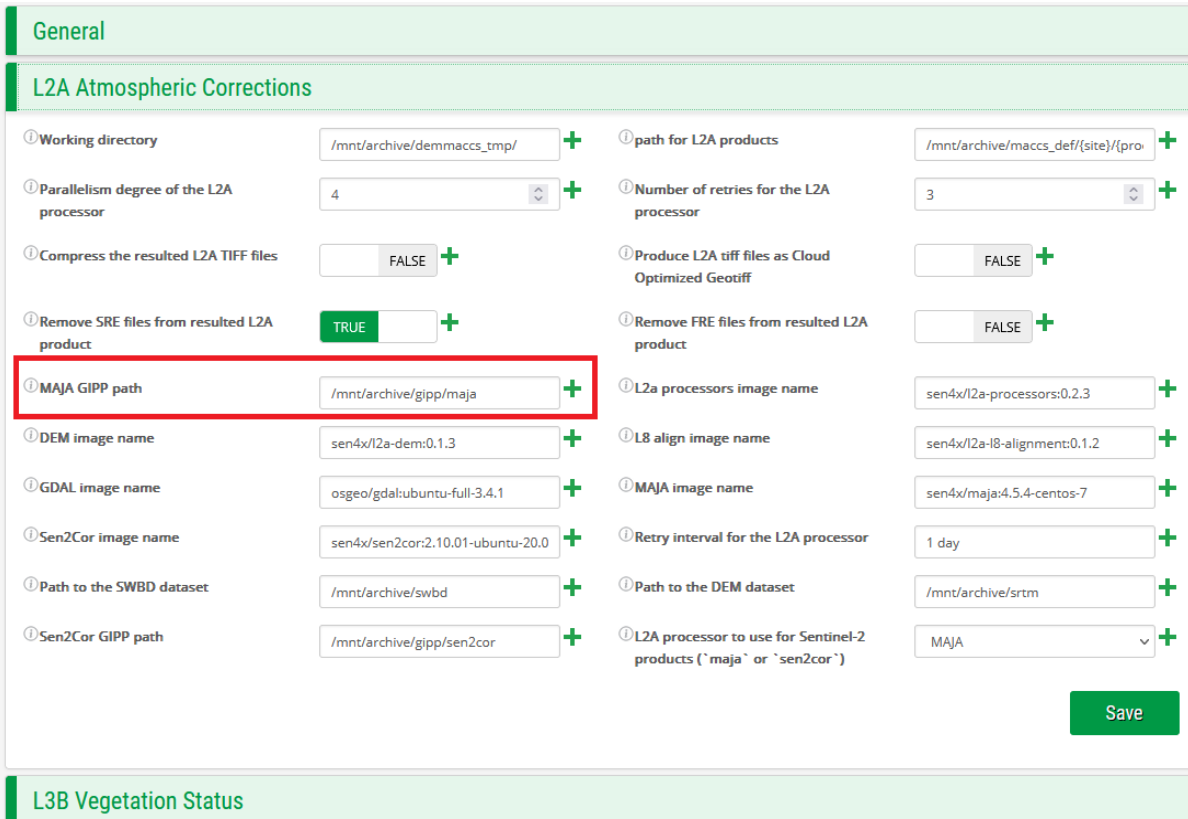

Figure 3-1 - MAJA GIPP path configuration key
Similarly, the MAJA GIPP files are provided separately from the installation package. If the GIPP files are provided in the installation package, in the “gipp_maja” directory (like in the Figure 3-2), they will be automatically deployed by the Sen4CAP installer. The GIPP files can be also deployed later by copying them manually in the location indicated by the configuration key described in the Figure 3-1.
- Like in the case of fresh install, if you want to update also the MAJA gipp, unzip the GIPP files in the directory "gipp_maja" that you will have to create in the installation directory, on the same level with the "install_script" folder (see Figure 3-2). If manual deployment of GIPP files is preferred, they should be copied in the location specified by the configuration key described in Figure 3-1;